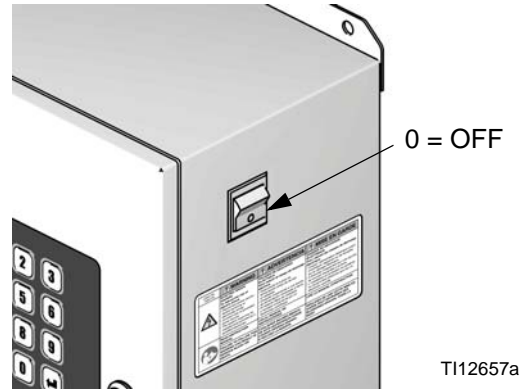

FIG. 24: Power Off
1. Shut off ProMix 2KS power (0 position). FIG. 24. Also shut off power at main circuit breaker.